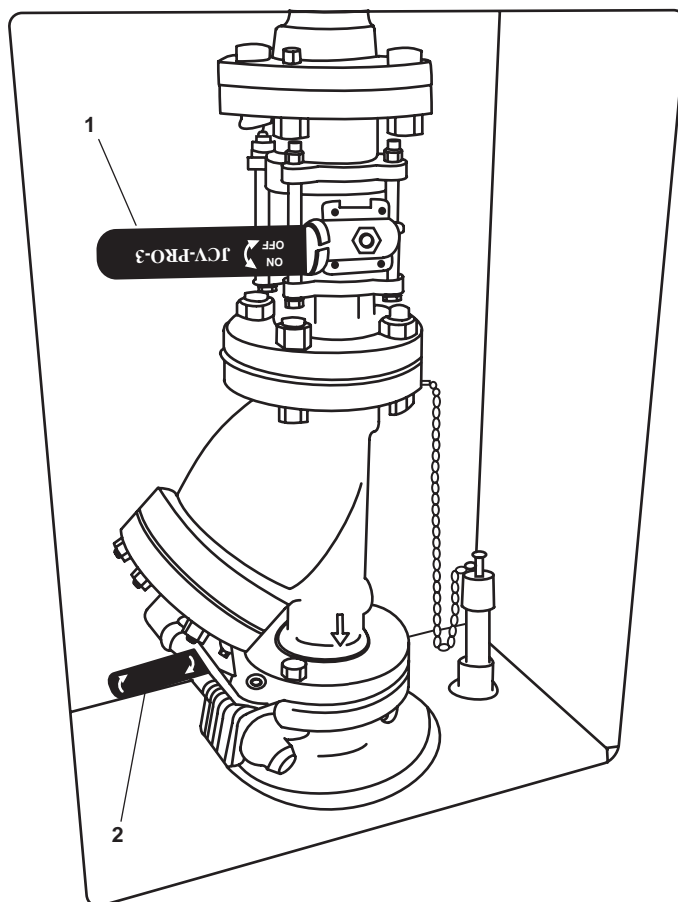
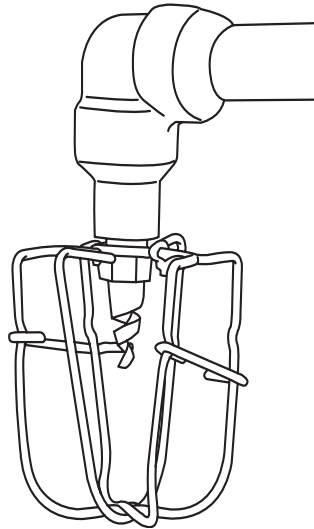
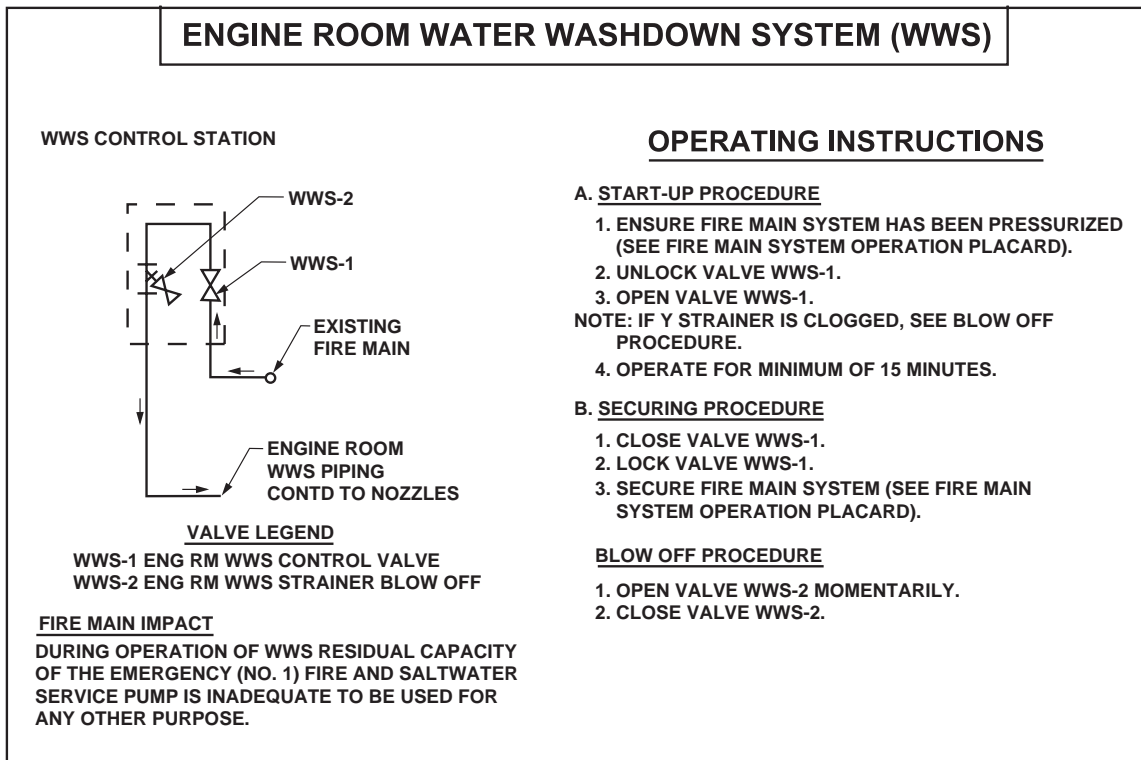

Figure 11. Engine Room Water Washdown Station
Figure 12. Engine Room Water Washdown System Sprinkler Head
Figure 13. Engine Room Water Washdown System Operating Instructions
Activation of the ERWWS is accomplished by opening WWS-1 (figure 11, item 1). WWS-1 is located in the engine room vestibule on the main deck at Frame 25. The ERWWS shall be activated prior to actuation of the FM-200 fire suppression system. The ERWWS is a Hydrogen Fluoride (HF) gas mitigating water washdown system that provides general overhead coverage to the protected spaces. The ERWWS consists of simple overhead sprinkler heads (figure 12) piped directly to the fire main. The ERWWS receives raw water directly from fire and general service pump 1. Fire and general service pump 1 is powered by the Emergency Diesel Generator (EDG) switchboard and will have to be restarted remotely from the pilothouse once the EDG comes online.
When the FM-200 fire suppression system is actuated to extinguish a fire, allow the ERWWS to operate for a minimum of fifteen minutes. During the ERWWS operating period, valve WWS-2 (figure 11, item 2) should be OPENED for ten seconds every three minutes. WWS-2 is the ERWWS strainer blow off and will flush foreign matter from the inline strainer basket during operation of the ERWWS. The ERWWS operating instructions (figure 13) are posted above the ERWWS station valves in the main deck vestibule.